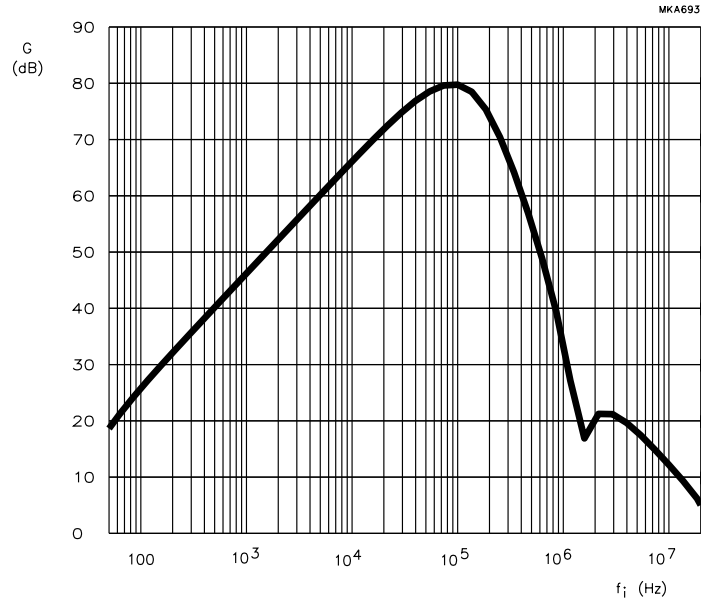

Fig.5 Typical gain of main data channel (AGC off).
- Gain relative to gain at $f_i = 50 \text{ kHz}$. See Fig.5 for typical frequency response.